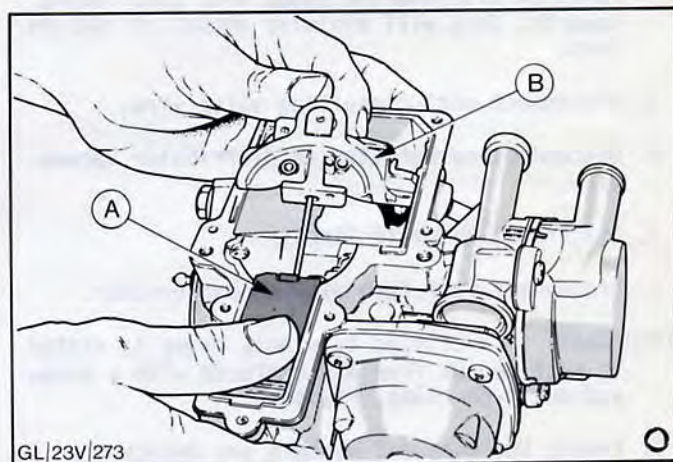

Fig.49. Main jet body removal.
4. Remove four cross head screws, hold air valve fully open and carefully detach main jet body. Refer Fig.49.